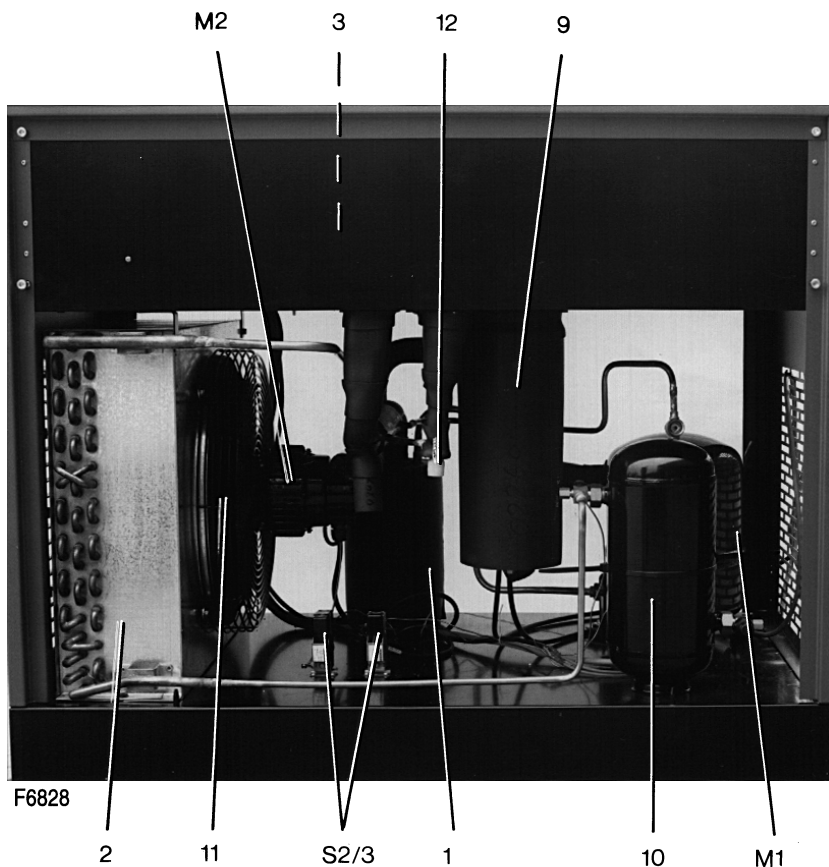

Fig. 8. FD210
2. **On 3-phase dryers** (see section 1.5), press on-off button (S1-Fig. 11a). Check that the sense of rotation of fan motor (M2-Fig. 8) is correct. Cooling air must be drawn in through the condenser and blown over the refrigerant compressor to outside the dryer. If wrong, switch off the voltage and reverse two of the three phase connections at the mains terminals.
5.1 Automatic expansion valve (12-Fig. 8)